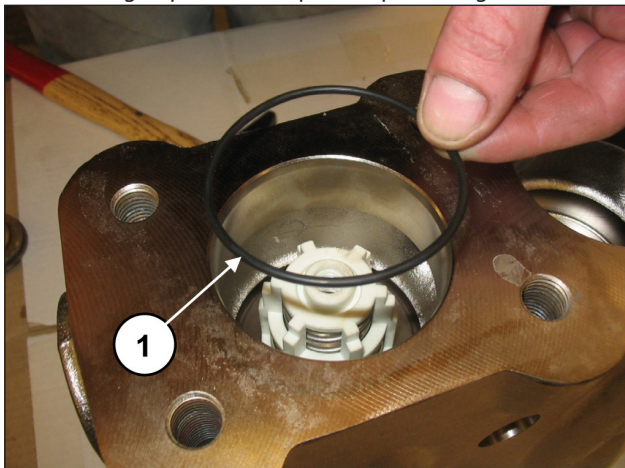

Fig. 121
Fit the O-ring, exploded view pos. 17 (pos. ①, Fig. 121).